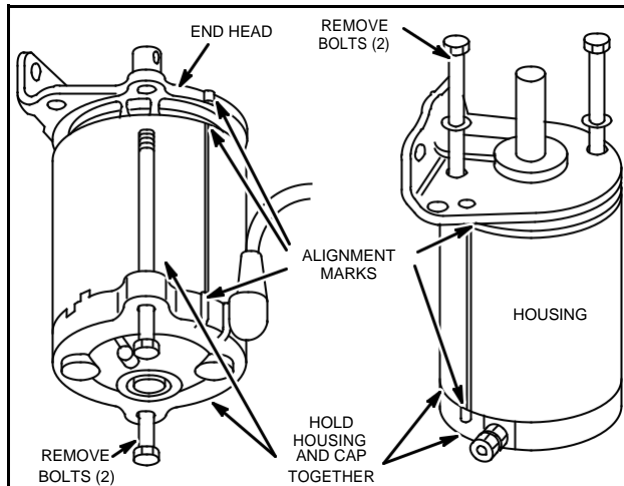

Fig. 699 – REMOVING THRU BOLTS
3. The drive head end may now be removed. Inspect bushing for wear. If worn, replace drive head end assembly, Fig. 699.
2. Match alignment marks, Fig. 699.